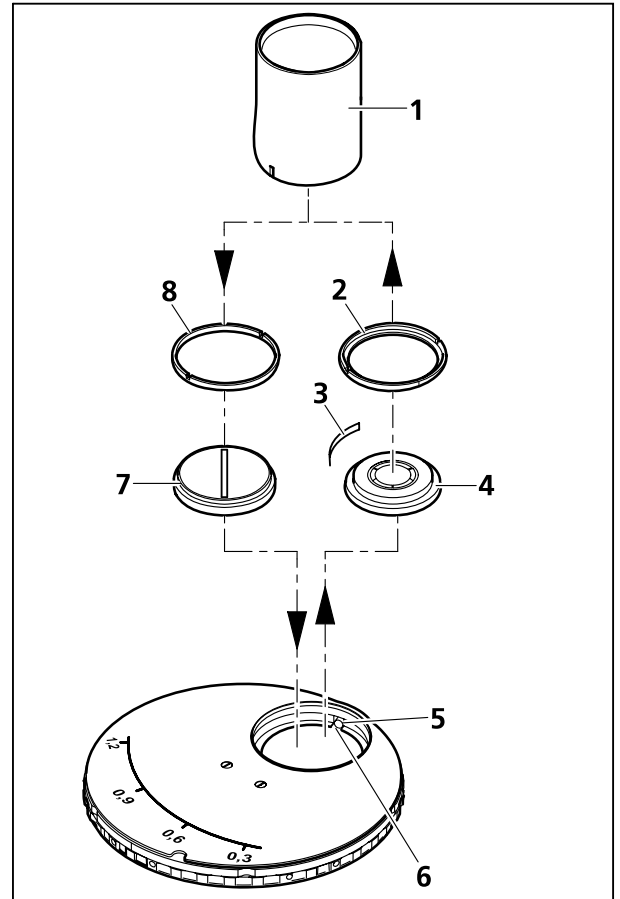
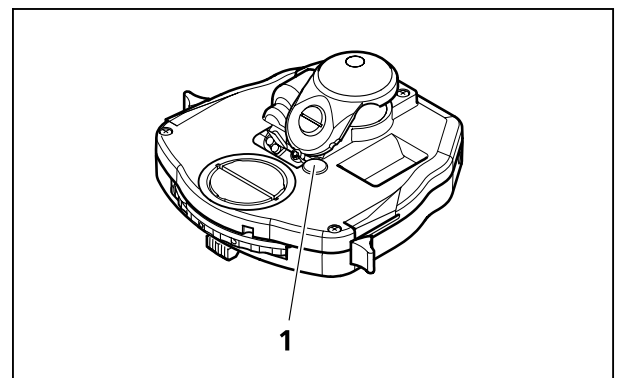

Fig. 3-51 Mounting the slit-diaphragm
Fig. 3-52 Changing the diaphragm Ph-DIC
- Screw the modulator disk's centering screws (Fig. 3-51/5) with the aid of a hexagonal socket screwdriver back until they stop.
- Unscrew the adapter ring (Fig. 3-51/2) of the Ph-diaphragm with the included tool (Fig. 3-51/1).
- Remove Ph-diaphragm (Fig. 3-51/4) and spring (Fig. 3-51/3).
- With the aid of the tool (Fig. 3-51/1), insert the slit-diaphragm (Fig. 3-51/7) with the cams into the orientation grooves (Fig. 3-51/6).
- Screw in the adapter ring (Fig. 3-51/8) included with the slit-diaphragm with the aid of the appropriate tool (Fig. 3-51/1).
- Remove the cover (Fig. 3-52/1). Turn the screw (Fig. 3-51/5) with the hexagon socket screwdriver 1.5 mm counter-clockwise to the stop. You can now close the aperture diaphragm for contrasting procedures in DIC.